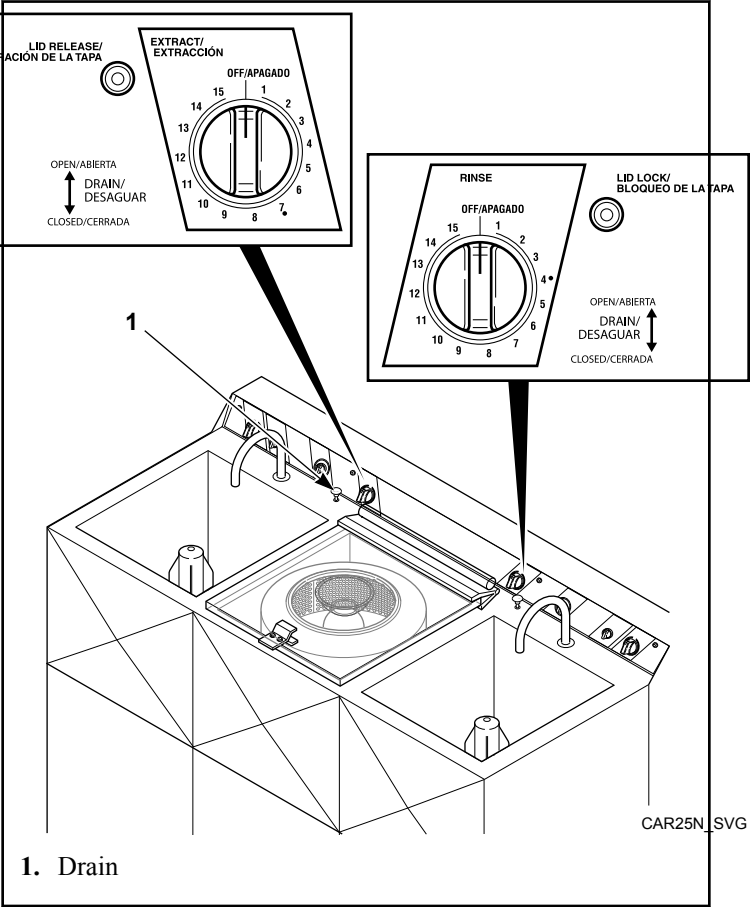

Figure 16
10. Set extract timer and rinse timer to desired cycle times. Refer to *Figure 16*.
11. When cycle is complete, wait until basket stops, then press LID RELEASE button to open lid. Refer to *Figure 16*.